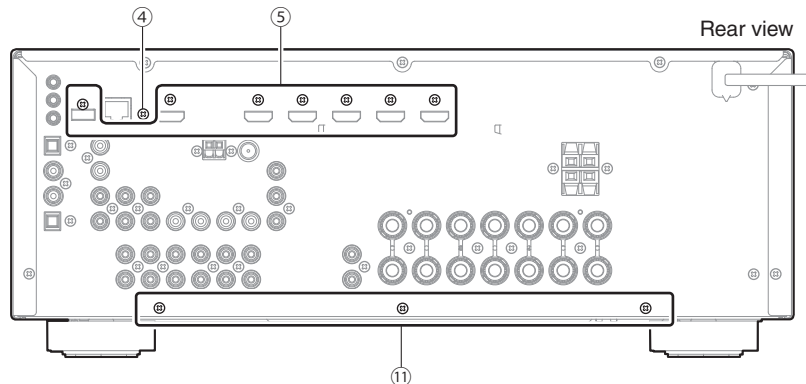

Fig. 3
3. Removal of DIGITAL (1) P.C.B.
- a. Remove screw (4) and 7 screws (5). (Fig. 3)
- b. Remove 3 screws (11). (Fig. 3)